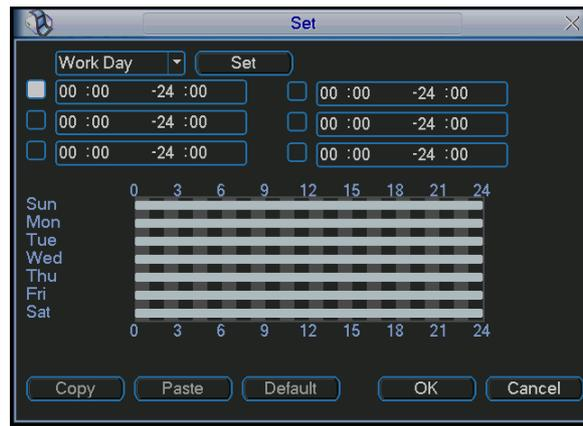
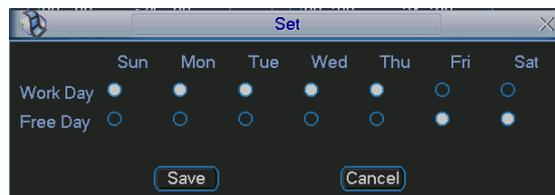

Figure 4-21
Figure 4-22
- Period: Click set button, you can see an interface is shown as in Figure 4-21. Here you can set for business day and non-business day. In Figure 4-21 __, click set button, you can see an interface is shown as in Figure 4-22. Here you can set your own setup for business day and non-business day.